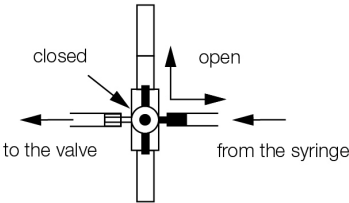

Fig. 9: Calibrating the test set-up (2)
- Turn the three-way faucet and fill up the pressure gauge to at least 5 cmH₂O, see fig. 9.
- Rotate the three-way faucet, see fig. 9, and fill the pressure gauge to 10 cmH₂O higher than the envisaged valve opening pressure (e.g., with the *paediGAV*, 9/29, the pressure gauge for the low pressure side is filled to 19 cmH₂O, while the high pressure side is filled to 39 cmH₂O).